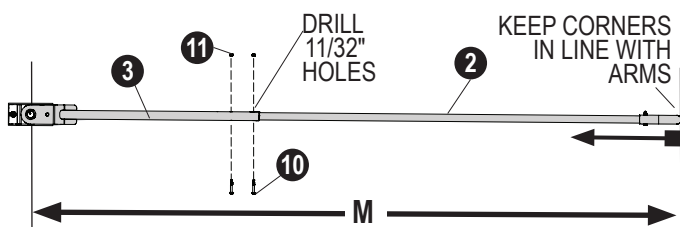

FIG. 107
- Insert the **upper arms (2)** into the **lower arms (3)**. Adjust the arms until they measure length "M".
- Secure the **upper arms (2)** to the lower arms (3) with **bolts (10)** and **nuts (11)**, as shown in Figure 107.